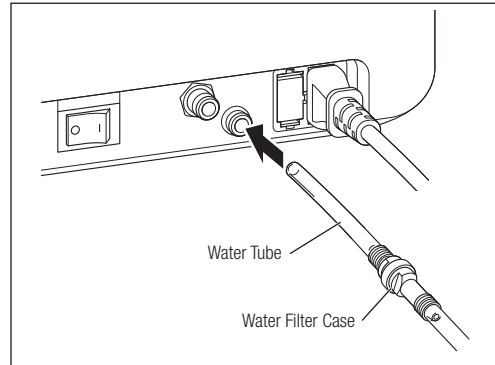

Fig. 10
- 1) Insert one end of the Water Tube (the end with the water filter) deep into the Water Tube Connector (Fig. 10).